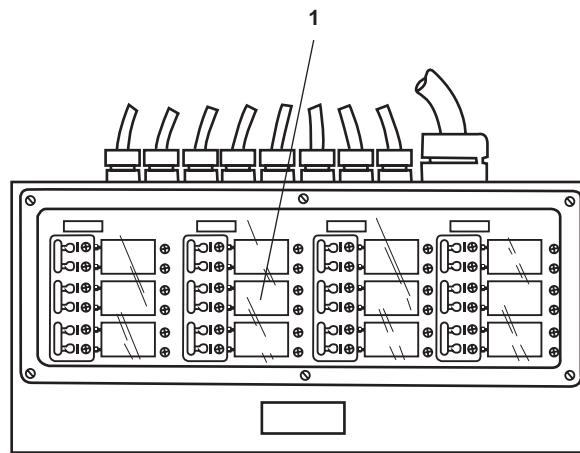

Figure 13. Machinery DC Control Distribution Panel
4. In the engine room on the aft bulkhead of the EOS, at the machinery DC control distribution panel, set the PMP DR ENG circuit breaker to ON (figure 13, item 1).